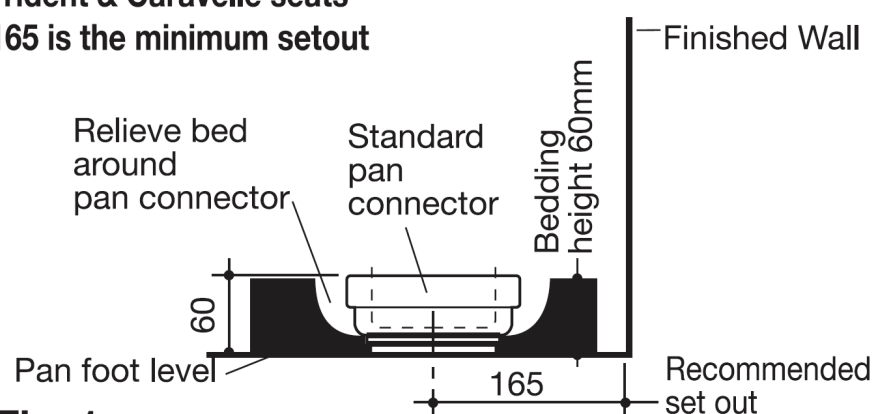
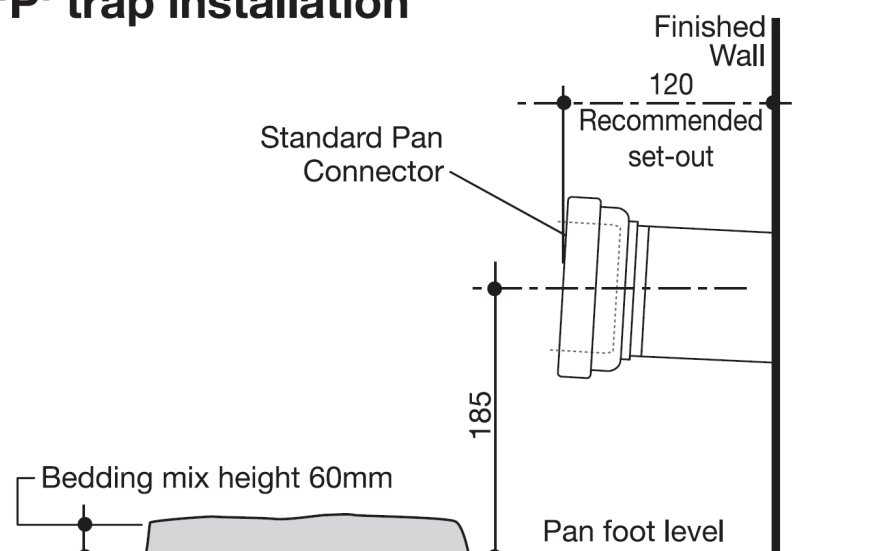

Fig. 1
Fig. 2
The soil pipe and pan collar should be accurately fixed into position as recommended for Caroma cisterns, as detailed in **Figure 1** and **Figure 2**.
- 3- Prepare bedding sand cement mixture 3:1 to depth of 60mm as detailed in **Figure 1** or **Figure 2**.